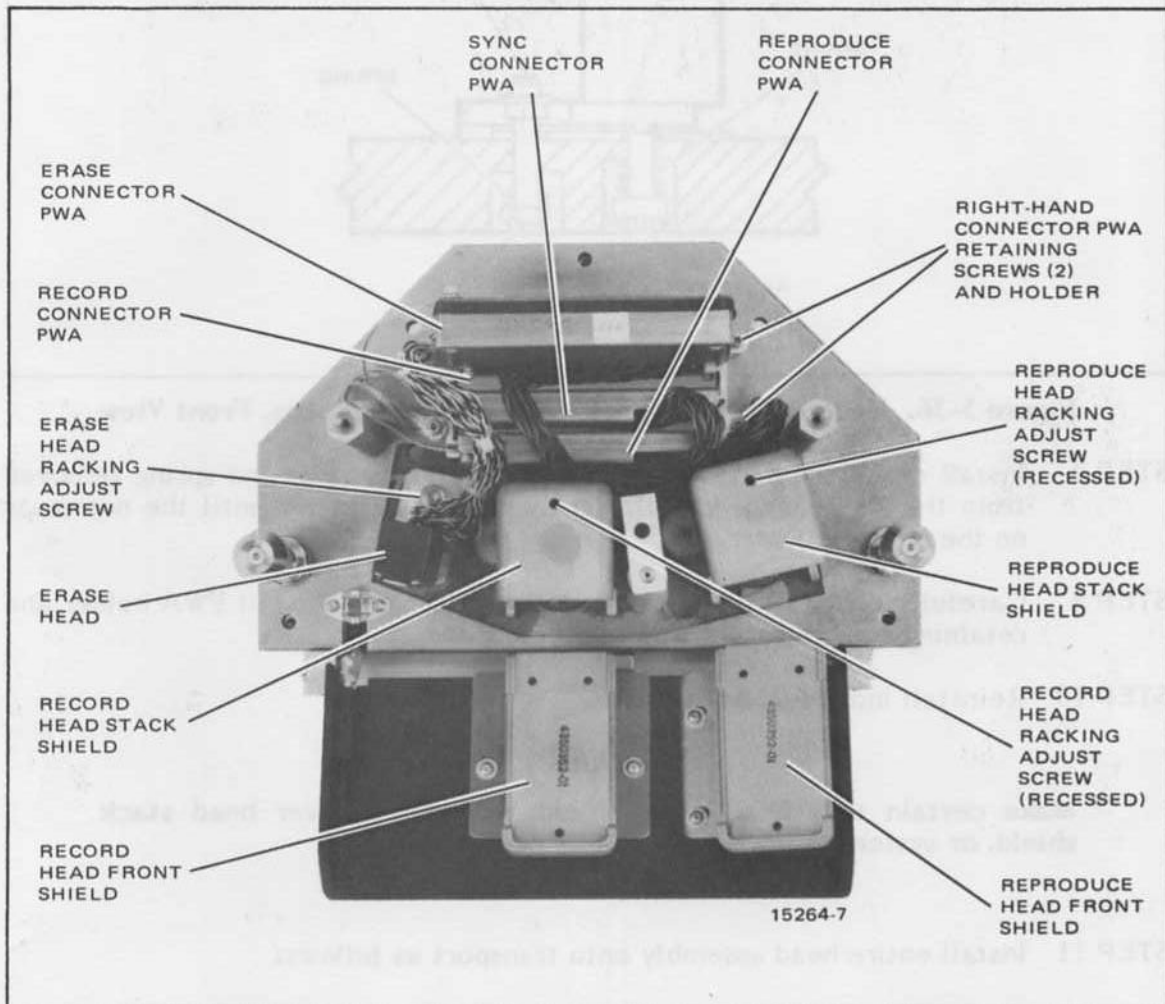

Figure 5-35. Top View of Head Assembly With Main Head Shield Removed
- STEP 4 Remove the two right-hand connector PWA retaining screws and holder (Figure 5-35).
- STEP 6 For record or reproduce heads, remove individual head shield (Figure 5-35) from head by removing three screws from bottom of head assembly.